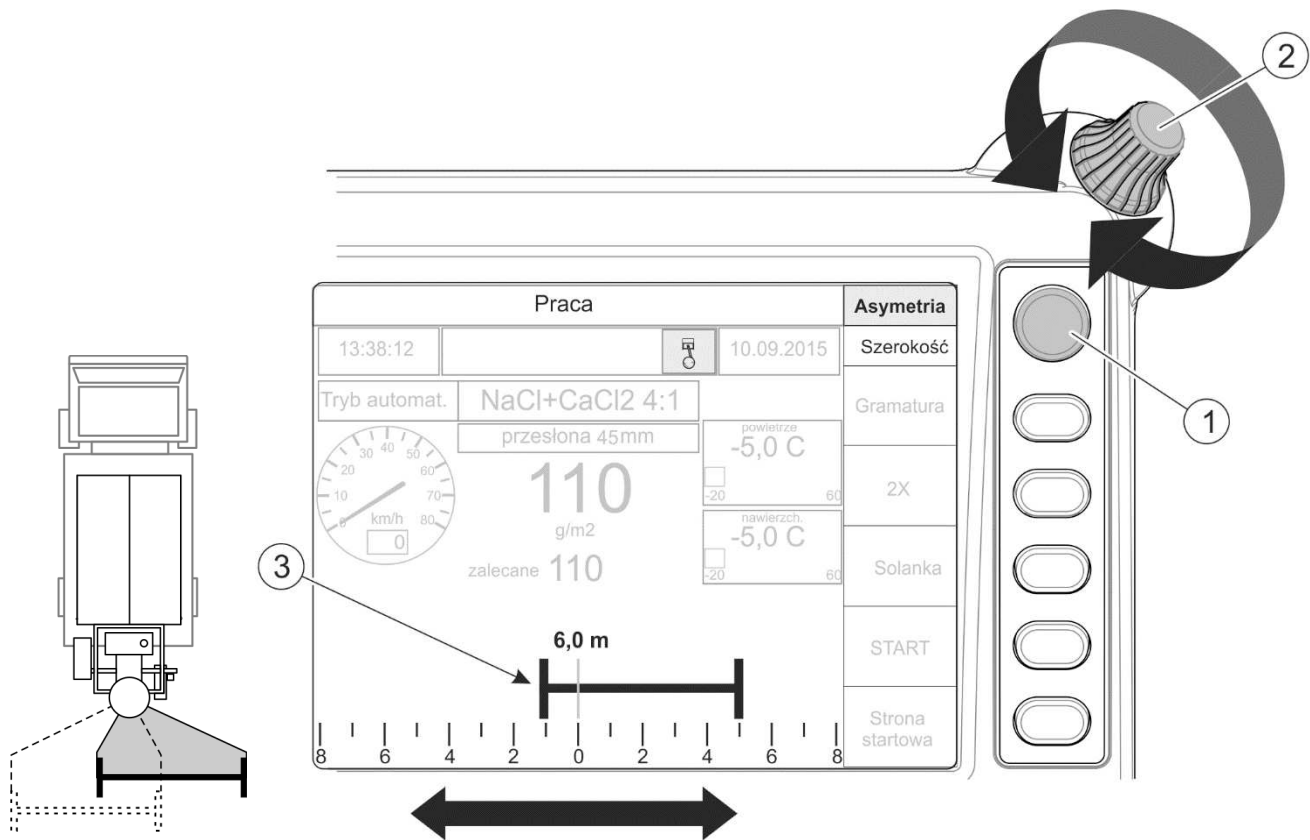

FIGURE 4.25 Changing asymmetry of spreading
- highlight "Width" function by means of push-button (1),
- turn knob (2) to set a required width (3) from 2 m ÷ 12 m.
To change asymmetry of spreading, highlight "Asymmetry" field on working page "Operation" by means of push-button (1). Turn knob (2) to move current spreading width to the right or to the left (FIGURE 4.25).